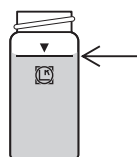

Fig.1
1. Fill the cell with 25 mL of sample (up to the line). (Fig.1)